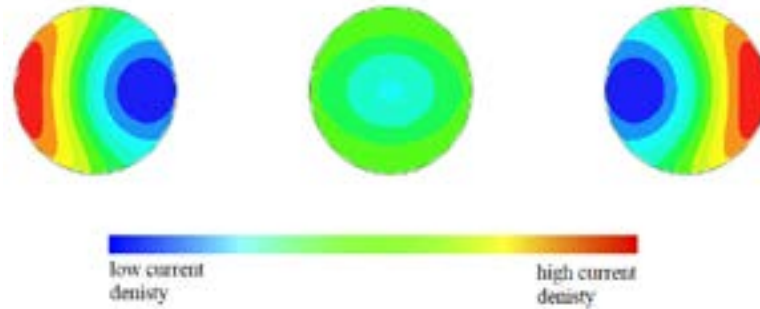

Fig. 1. Skin and proximity effect leads to uneven current distribution.
While AC does have some inherent drawbacks, such as the skin and proximity effects, these are manageable and far outweighed by its advantages. Notably, our entire electrical grid is built upon AC, a testament to its effectiveness in delivering power across vast distances. The skin effect is the propensity of an alternating current (AC) to distribute itself within a conductor such that the current density is greatest near the conductor's surface and diminishes with increasing conductor depth. The alternative current interacts with the conductor forming an electromotive force which vary in magnitude and phase throughout the cross-section of the conductor, being large in the centre and smaller towards the edge as shown in Fig. 1.
The magnitude of this effect increases with frequency and the size and shape of the conductor. The interaction of the conductor's magnetic field with other conductors of different phases, which are close to one another causes further distortion in current density. Depending on the flow direction, as illustrated in Fig. 1., this tends to move the current density to one side of the conductor. The conductor's resistance tends to rise because of this action. The frequency and conductor configuration affect the proximity effect's intensity.